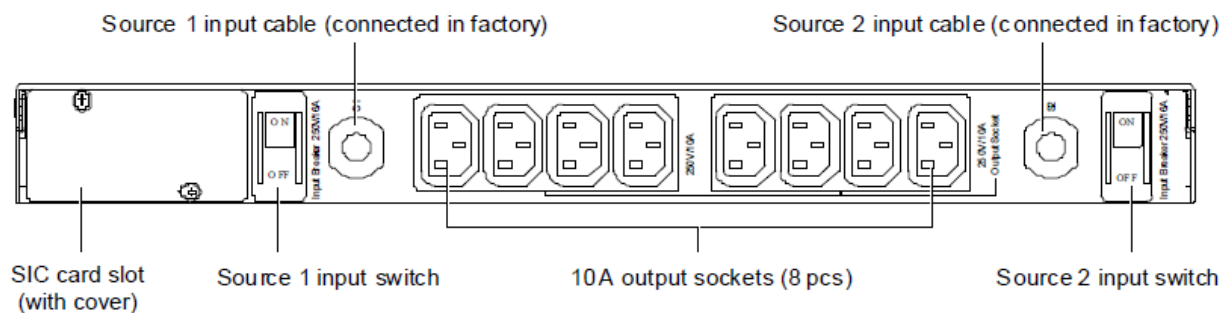
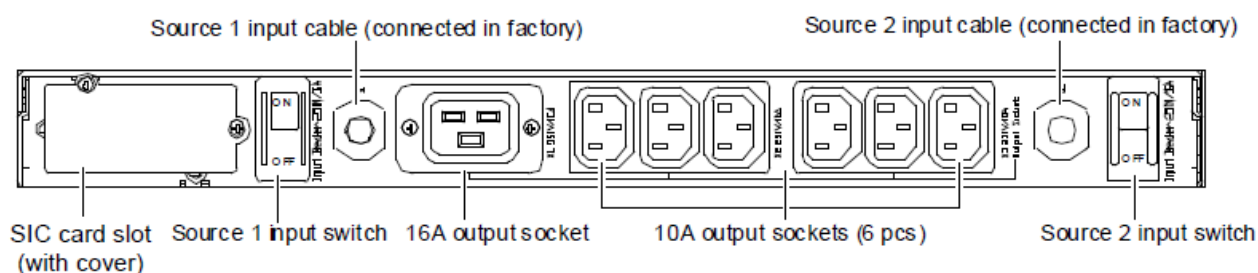
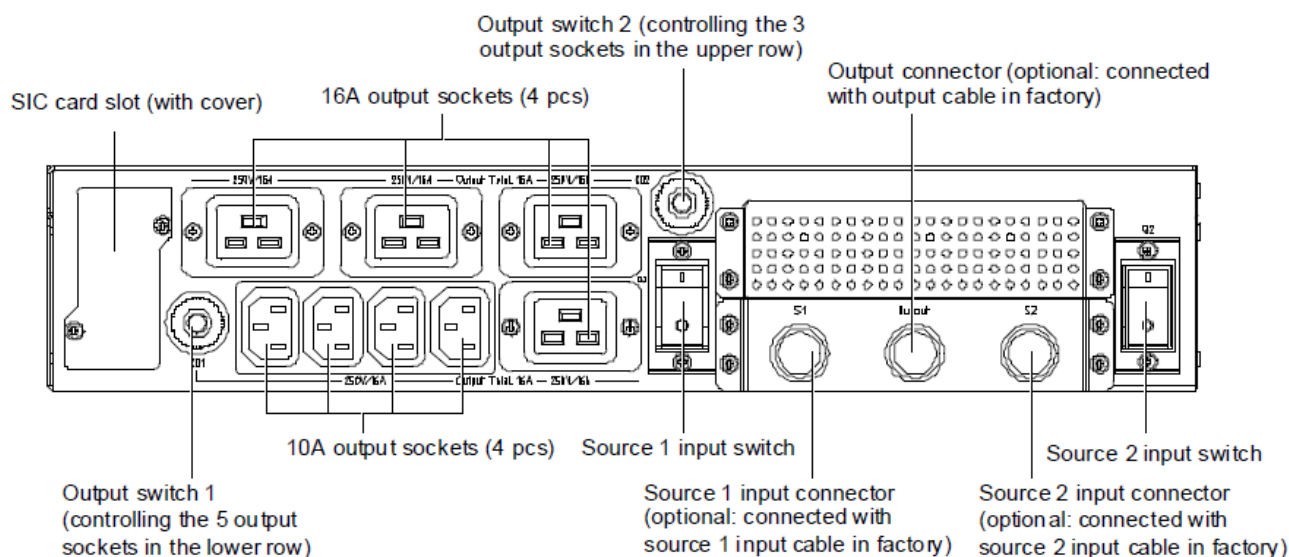

Figure 1-4 10A LTS back panel
Figure 1-5 16A LTS back panel
Figure 1-6 32A LTS back panel
The components provided on the LTS back panel are shown in Figure 1-4 ~ Figure 1-6. The input switches are described in Table 1-3.
1. Check that the source 1 input switch and source 2 input switch (see Figure 1-4 ~ Figure 1-6) of the LTS are off.
- The 10A LTS provides eight 10A output sockets (see Figure 1-4) on the back panel. Insert the load cable plugs into corresponding output sockets of the LTS. Note that the total load rated current cannot exceed 10A.
- The 16A LTS provides six 10A output sockets and one 16A output socket (see Figure 1-5) on the back panel. Insert the load cable plugs into corresponding output sockets of the LTS. Note that the total load rated current cannot exceed 16A.
- The 32A LTS provides four 10A output sockets and four 16A output socket (see Figure 1-6) on the back panel. Insert the load cable plugs into corresponding output sockets of the LTS. Note that the output sockets are in two rows, three 16A output sockets in the upper row, four 10A output sockets and one 16A output socket in the lower row, and that the total load rated current for each row of output socket cannot exceed 16A.
- The 32A LTS provides an output connector (see Figure 1-6) on the back panel for load connection through cable. It also provides an optional output cable with a connector at the end. Table 2-1 is the recommended cable min cross-sectional area for users, select appropriate cables according to Table 2-1.
The input cables (see Figure 1-4 and Figure 1-5) connected to the two sources of the 10A and 16A LTSs each provide a connector at the end. Connect the two connectors into corresponding input power.
The 32A LTS provides two input connectors (see Figure 1-6) for connecting the two source supplies respectively through cable. It also provides optional input cables with a connector at the end. Table 2-1 is the recommended cable min cross-sectional area for users, select appropriate cables according to Table 2-1.
- The LTS provides a USB interface (see Figure 1-2 and Figure 1-3) on the front panel, which supports RS232 communication, and provides an SIC card slot (see Figure 1-4 ~ Figure 1-6) on the back panel, which is used to install the optional SIC card and supports SNMP networking communication. The two communication modes cannot be used together. You may connect the communication cables according to the actual demand.